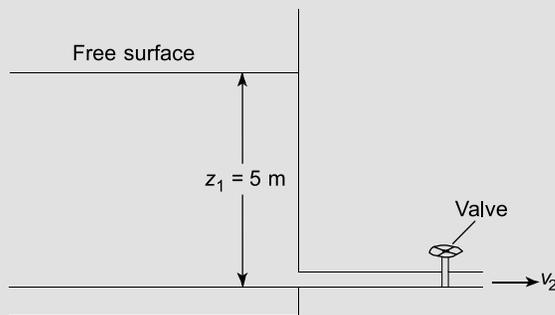

Figure 23.12
Problem 2. A storage tank contains oil whose free surface is 5 m above an outlet pipe, as shown in Figure 23.12. Determine the mass rate of flow at the exit of the outlet pipe, assuming that (a) losses at the pipe entry = $0.4 v^2$, and (b) losses at the valve = $0.25 v^2$.
1. If in the storage tank of worked Problem 2 on page 268, Figure 23.12, $z_1 = 8$ m, determine the mass rate of flow from the outlet pipe.
2. If in the storage tank of worked Problem 2, page 268, Figure 23.12, $z_1 = 10$ m, determine the mass rate of flow from the outlet pipe.